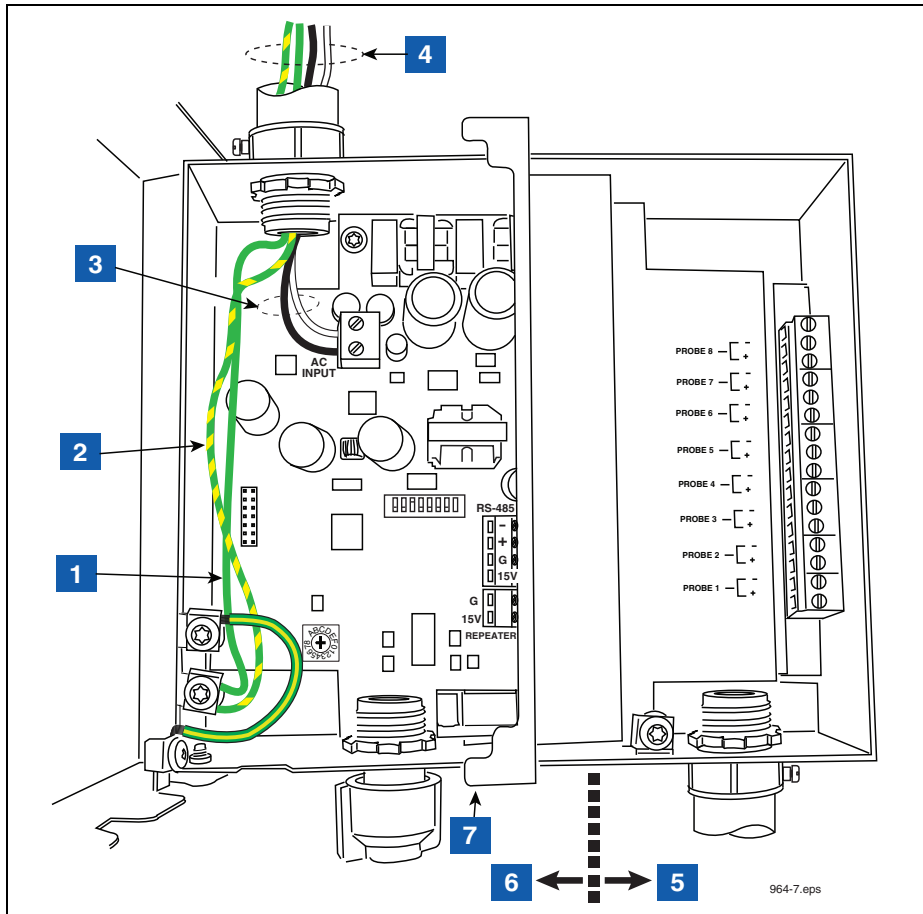
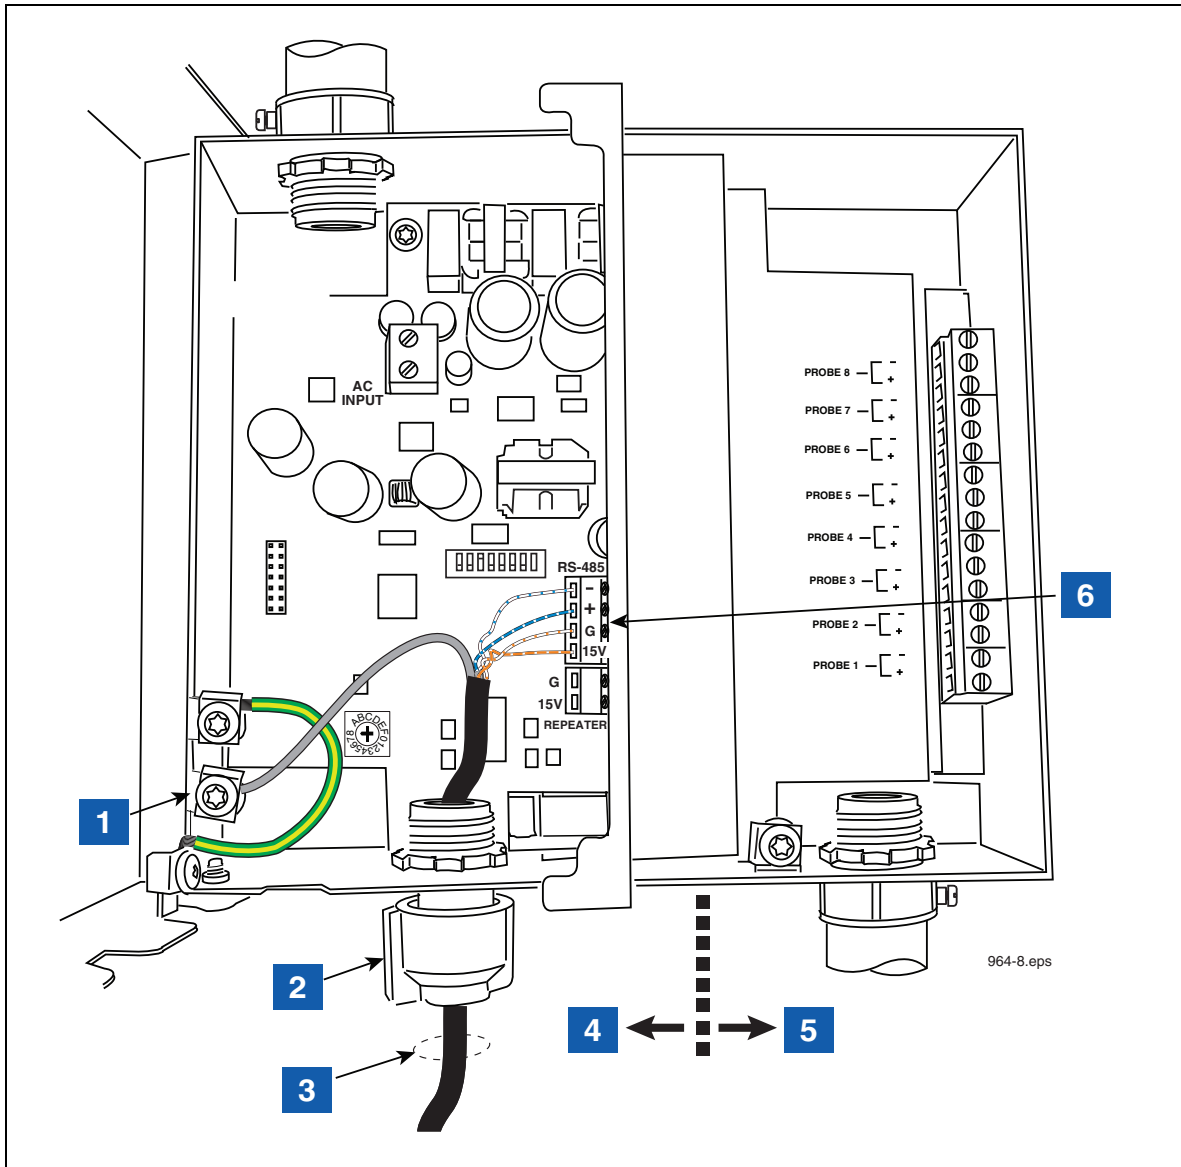
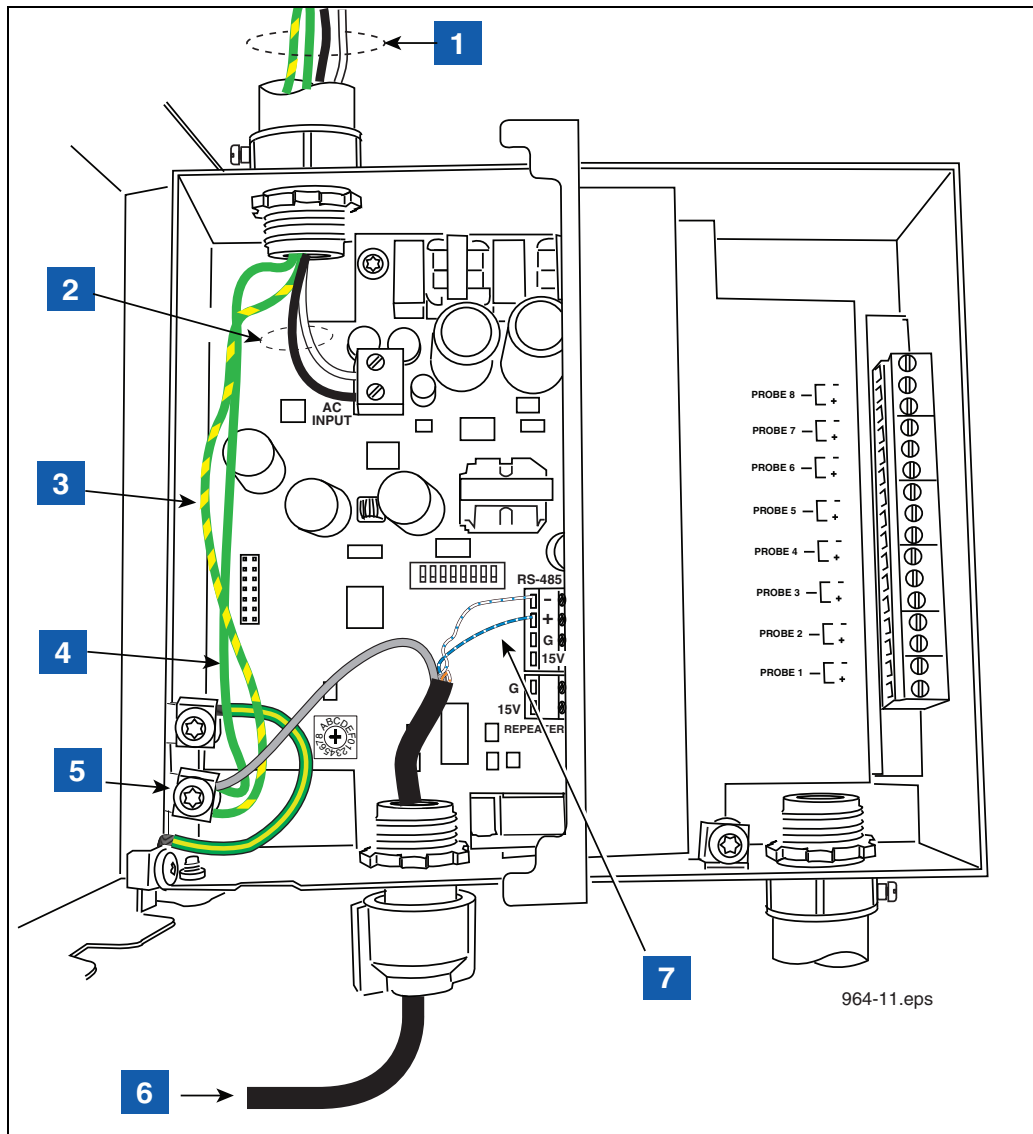
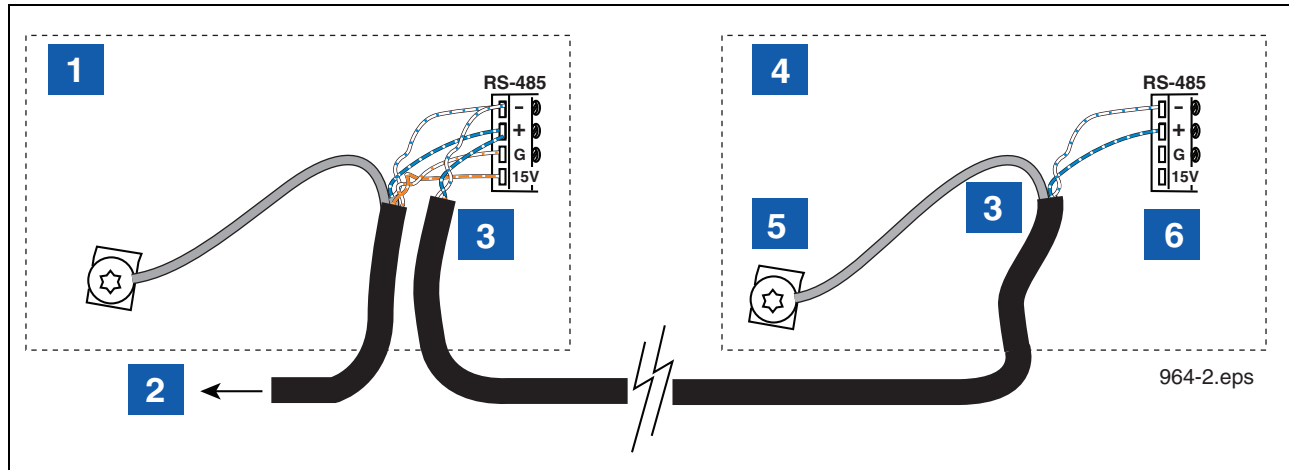

Figure 6. Wiring AC Power to the TLS RF
Figure 7. Wiring Receiver to the TLS RF
Figure 9. Power Connections to a Daisy Chained TLS RFs
Figure 10. RS-485 Cable Connections When Daisy Chaining Two TLS RFs
4. Using a T15 Torx driver, open the covers of the TLS RF, Repeater and Receiver. Make a temporary ac power cord with a grounded plug on one end. Connect the ac power cord to the TLS RF's input power terminals and ground terminal (refer to Figure 6 and Figure 7). Connect a necessary length of RS-485 cable from the TLS RF's RS-485 terminals to the Receiver's RS-485 terminals (refer to Figure 32). Connect a necessary length of 2-conductor cable from the Receiver's Repeater terminals to the Repeater's Repeater terminals (refer to Figure 33).
To connect power wiring see Figure 6. To connect Receiver wiring see Figure 7. To daisy chain two TLS RFs, see Figure 9 and Figure 10. To connect TLS RF data output wiring to the TLS console see Figure 6.
LEGEND FOR NUMBERED BOXES IN Figure 6
LEGEND FOR NUMBERED BOXES IN Figure 7
LEGEND FOR NUMBERED BOXES IN Figure 9
| <p>1. POWER WIRING NOTES:</p> <ul style="list-style-type: none"> • Barrier ground must be #12 AWG or larger diameter. • Check to be sure that the electrical resistance - between the unit ground lug and a known good earth ground is less than 1 ohm. • Connect the power supply wires in the power panel to a separate dedicated circuit. • Electrical rating power input - 120 Vac or 240 Vac, 50/60 Hz, 2 A max. • See Figure 2 for actual locations of power conduit knockouts into the unit. Power wiring must enter only in one of these knockouts. <p>2. AC power input wires (#14 AWG) to AC input terminals.</p> | <p>3. Protective earthing conductor (green and yellow). Attach #12AWG barrier ground wire to ground lug. Ground must be the same as the supply and less than 1.0 ohms to ground.</p> <p>4. Attach chassis ground wire (#14 AWG) to ground lug.</p> <p>5. Connect the shield of the RS-485 cable to the ground lug.</p> <p>6. RS-485 cable from master TLS RF.</p> <p>7. See Figure 10 for connections.</p> |
LEGEND FOR NUMBERED BOXES IN Figure 10